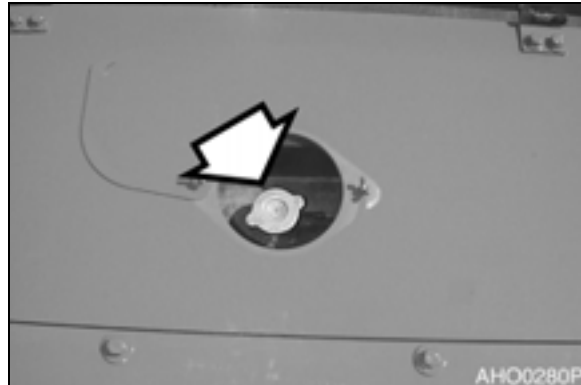

Figure 68
1. Slowly open the radiator cap (Figure 68) to allow any pressure to escape.